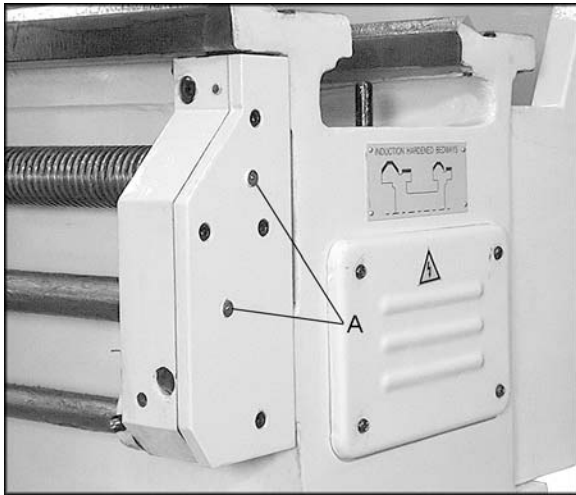

Figure 11
5. **Leadscrew and Feed Rod** – Daily lubricate two ball oilers on the right side bracket (A, Figure 11) with SAE 20W once or twice per shift.